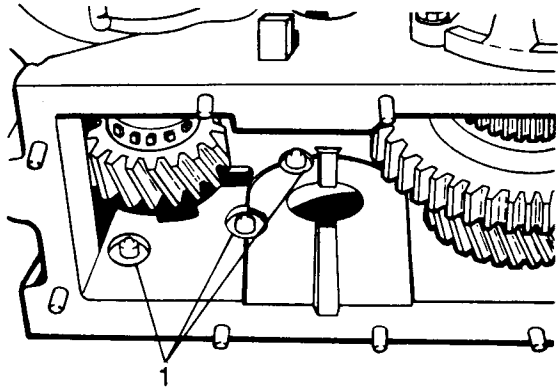

Fig H2.2
- (14) Refer to Fig H2.2. Remove the fixing elements (1) that join the transfer box to the gearbox and remove the transfer box and washer.